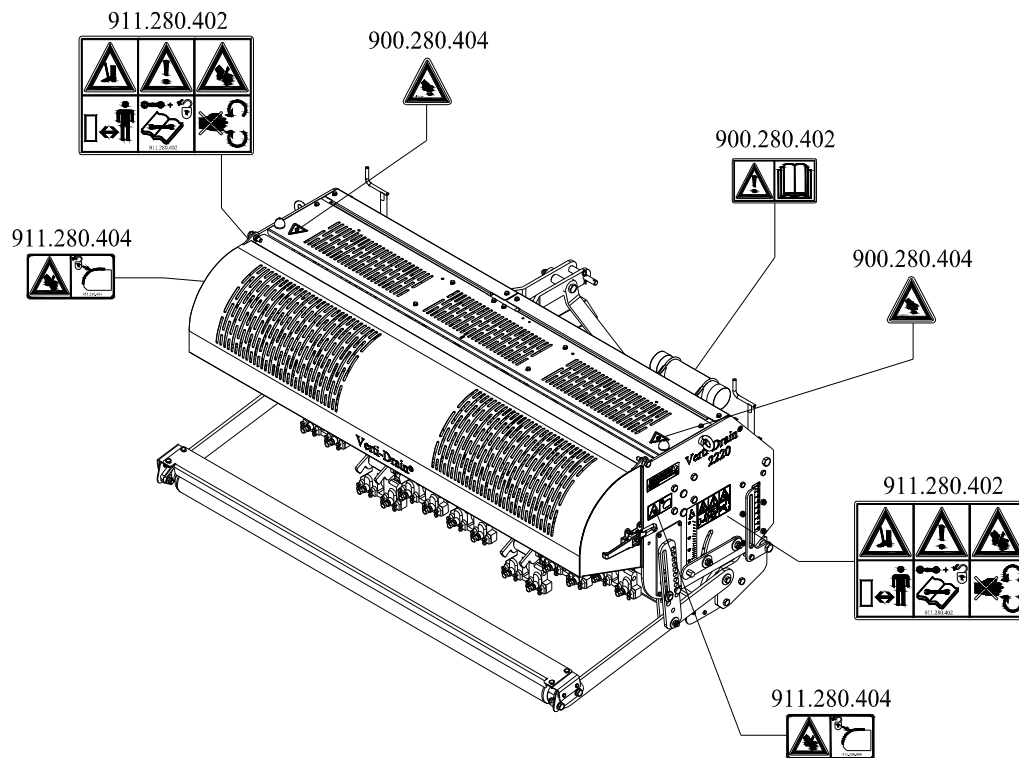

Figure 7
7. Location of the safety stickers (Figure 7)